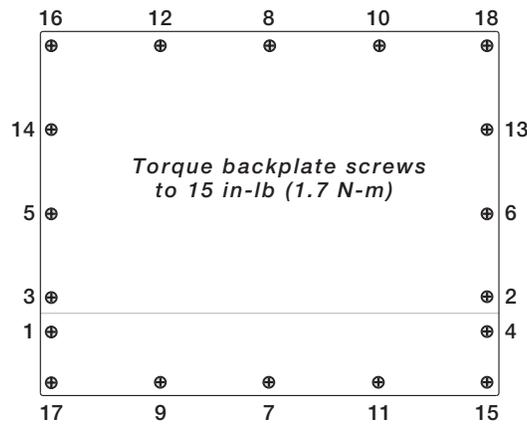

Figure 2-2. 920i Enclosure Backplate
- Use the appropriate procedure below to close the unit For universal and desktop models, place the backplate on the enclosure aligning the holes. Secure with the retained screws. Use the torque pattern shown in Figure 2-2 to prevent distorting the backplate gasket. Torque screws to 15 in-lb (1.7 N-m) for 920i desktop and universal models. Torque screws to 8 in-lb for the 920i wall mount model .